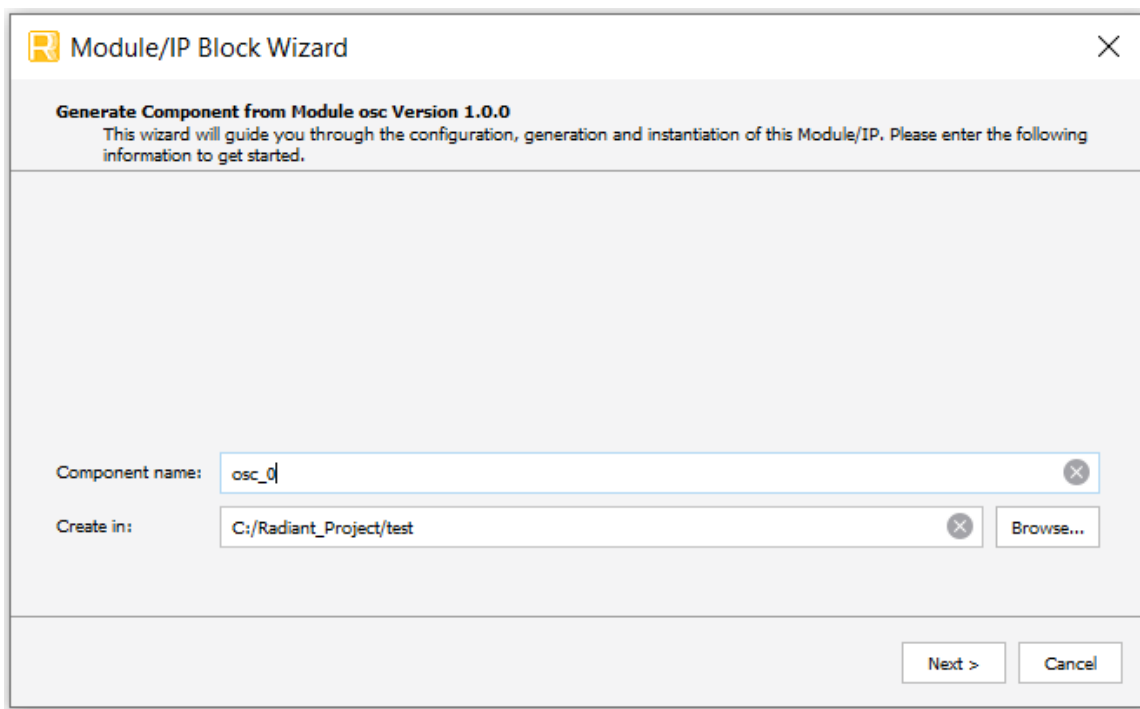

Figure 3.1. Module/IP Block Wizard
2. In the **IP Catalog** tab, double-click on **OSC** under **Module, Architecture_Modules** category. The **Module/IP Block Wizard** opens as shown in Figure 3.1. Enter values in the **Instance name** and the **Create in** fields and click **Next**.
- Click the **Finish** button. All the generated files are placed under the directory paths in the **Create in** and the **Instance name** fields shown in Figure 3.1.